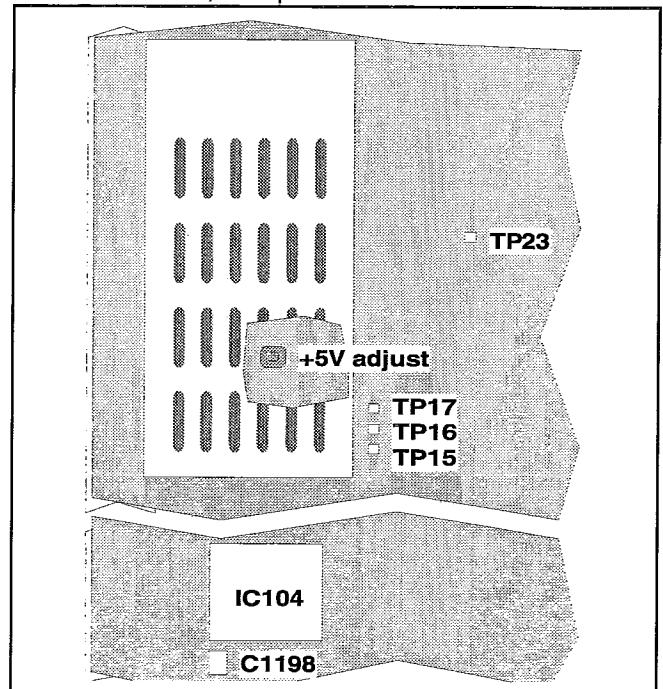

Figure 9-11 Test points and trimmer for the Power Supply.
- Connect the DMM across C1198 near IC111, see Figure 9-11.